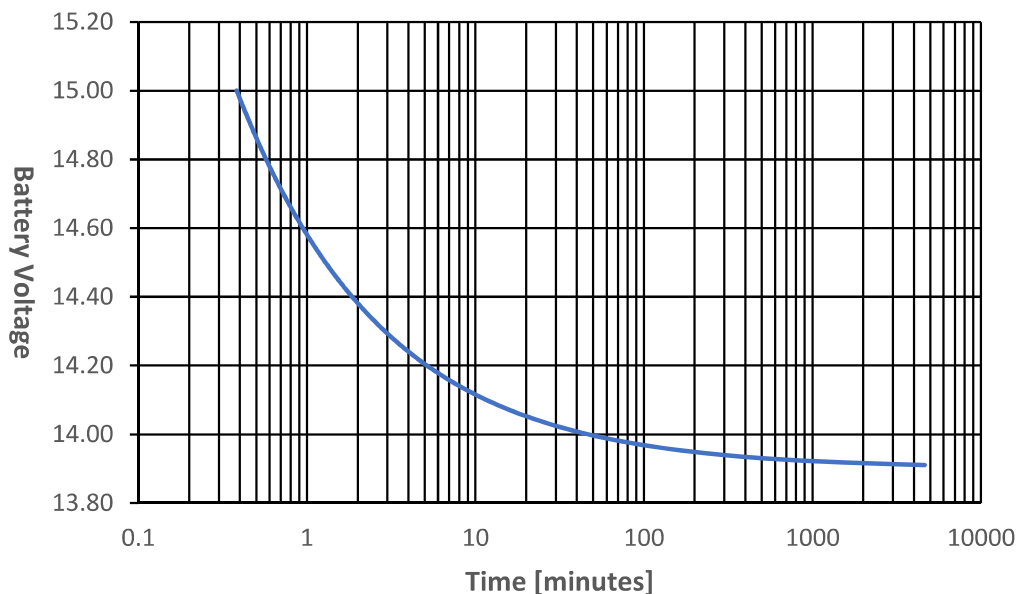

Figure 3-2, LFP Ending Battery Voltage Verses Time
2. Meets minimum Voltage-Time (see Figure 3-2).